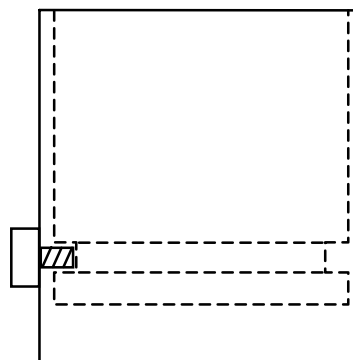

Figure 2-4: Flange Connection
5. Tighten the screw at the side of the mounting bracket so that it fits into the groove in the flange (see Figure 2-4).